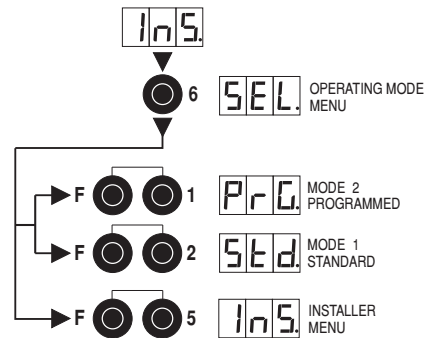

Fig. 9
- Select the unit's operating mode (mode 1 / mode 2) (Fig. 9).